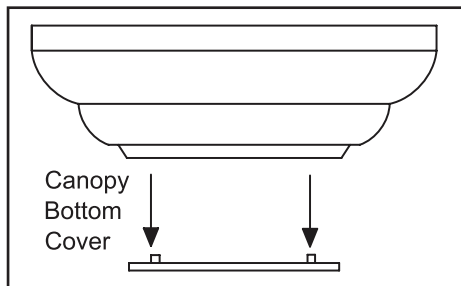

Figure 7
2. Remove the decorative canopy bottom cover from the canopy by depressing the three studs (Figure 7).